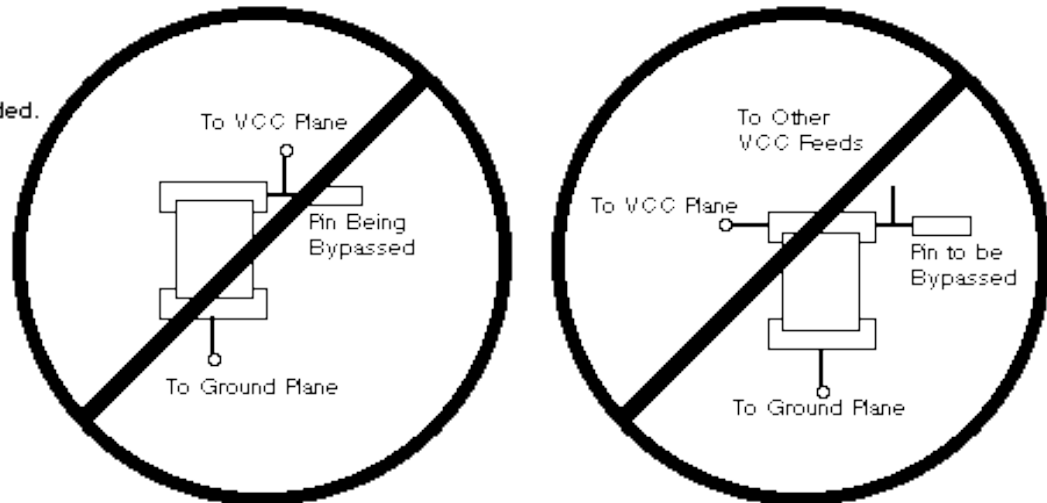

Figure 3-1 FCS Design
3. Mount bypass capacitors as close as possible to the power pins that are being bypassed. Please refer to Figure 3-1 for a recommended layout method for bypass capacitors. Where more than one pin is to be bypassed by a single capacitor, isolate the power plane around those pins, and connect the isolated section to the main power plane at one point.